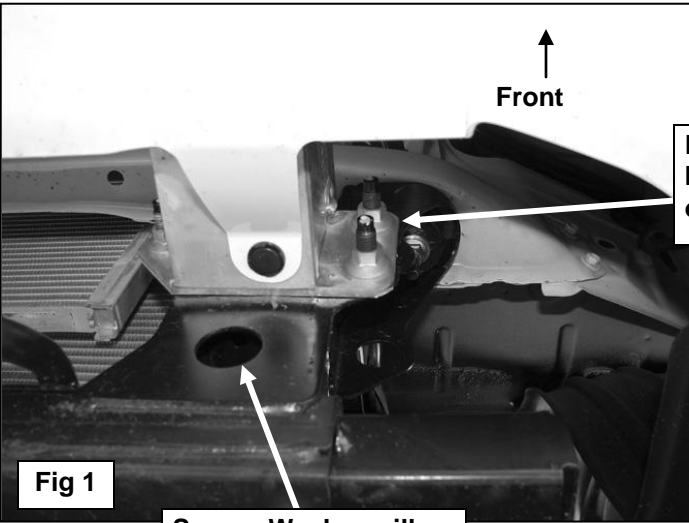
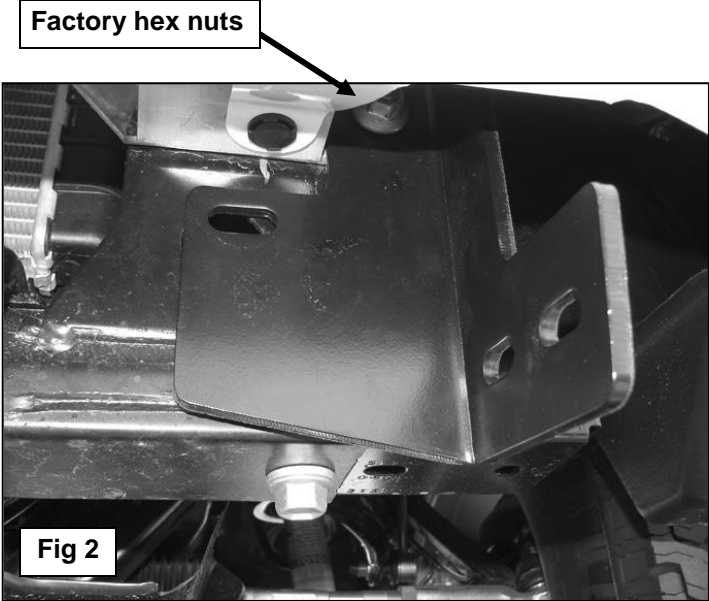

Fig 1
Fig 2
2. Start installation at the driver side, front of the vehicle and remove the (2) factory bumper mount hex nuts located toward the outside of the bumper mount and frame channel, **(Figures 1 & 7)**. **NOTE:** It may be necessary to remove the factory tow hook from the passenger side. Select the driver side frame mounting bracket and hang it from the (2) threaded studs. Secure the Bracket to the (2) threaded studs with the (2) factory hex nuts, **(Figures 2 & 7)**. Do not tighten hardware at this time.